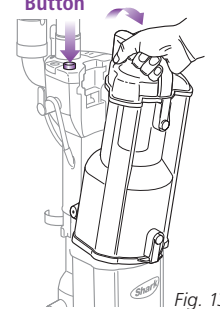

Fig. 13
- 1 Press the Dust Cup release button and remove the dust cup from the vacuum. (Fig. 13)